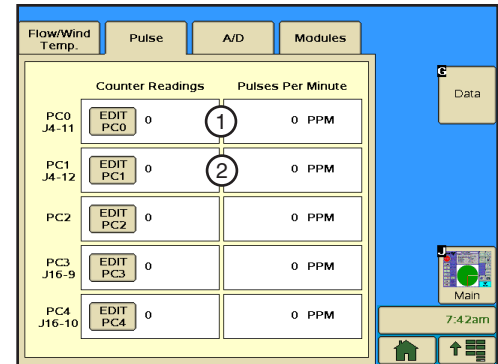

Figure 79-1 1. Flow Meter
Pulse is used to review pulse counts from external equipment. There are five Pulse Channels (PCs), numbered 0 through 4, to count electrical pulses from external equipment. Refer to Figure 79-1.
1. Push **Options, Data, Pulse** to display the pulse screen. Refer to Figure 79-1.